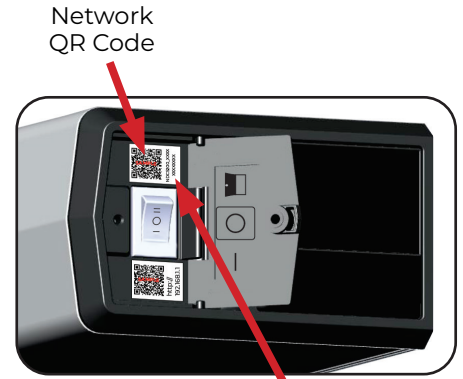

Figure 12
- The operator serial number and password are located next to the Network QR code on the operator end cap. (Figure 12)